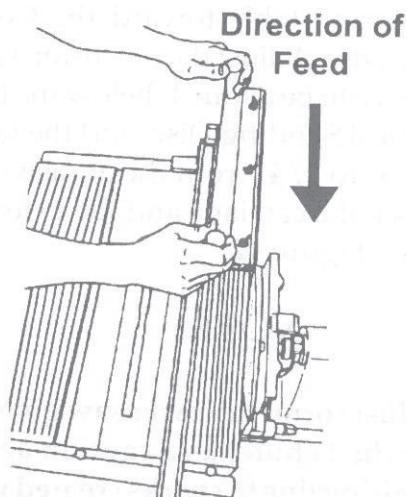

Figure 9
15. Stand at the end of the Mark V, with the worktable between you and the Conical Sanding Disc, hold both handles of the Knife Sharpener and feed the knife into the abrasive surface, see Figure 9.